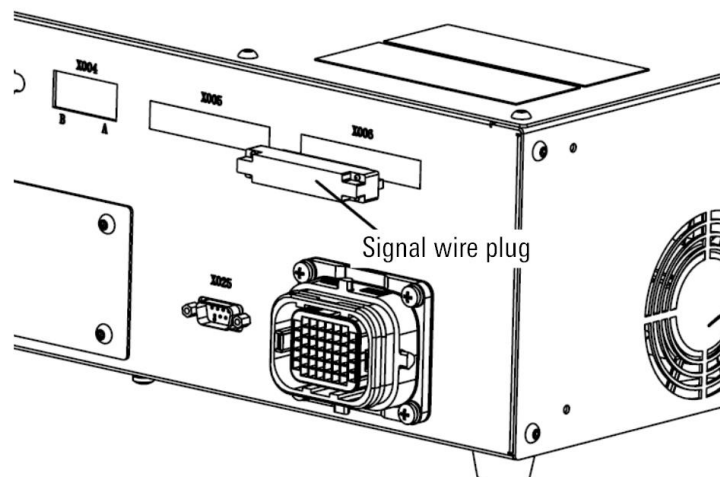

Figure 4-4 Control cabinet signal line interface
Step2.Connect the pressure signal line to the control cabinet: Insert the signal line plug into the X006 interface of the control cabinet (see Figure 4-4).